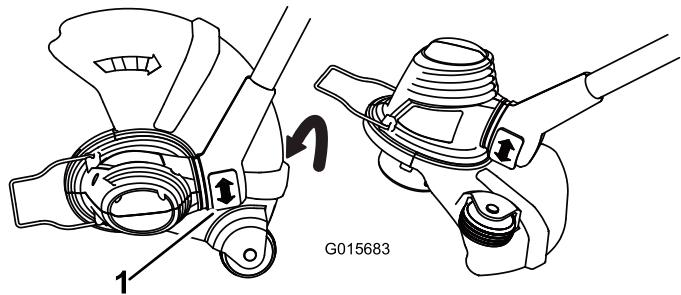

Figure 6
- To adjust the orientation of the base, press down on the rotator button located at the base of the shaft, then move the base to face the desired direction (Figure 6).